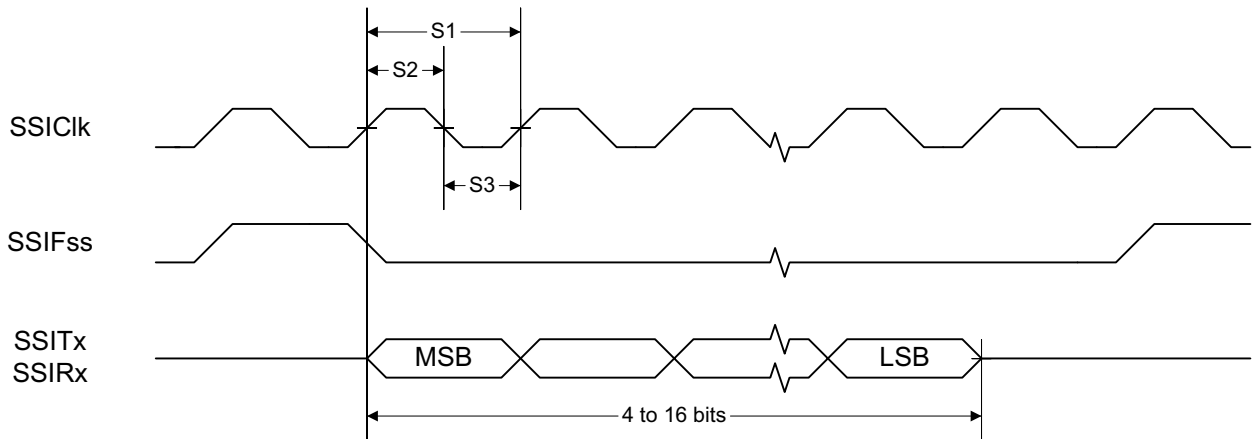
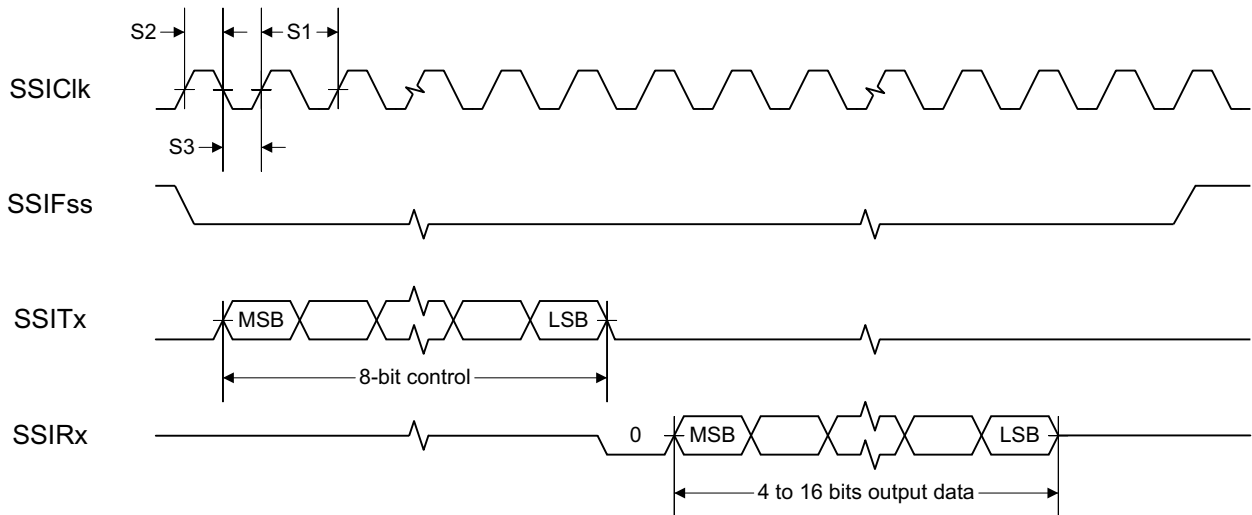
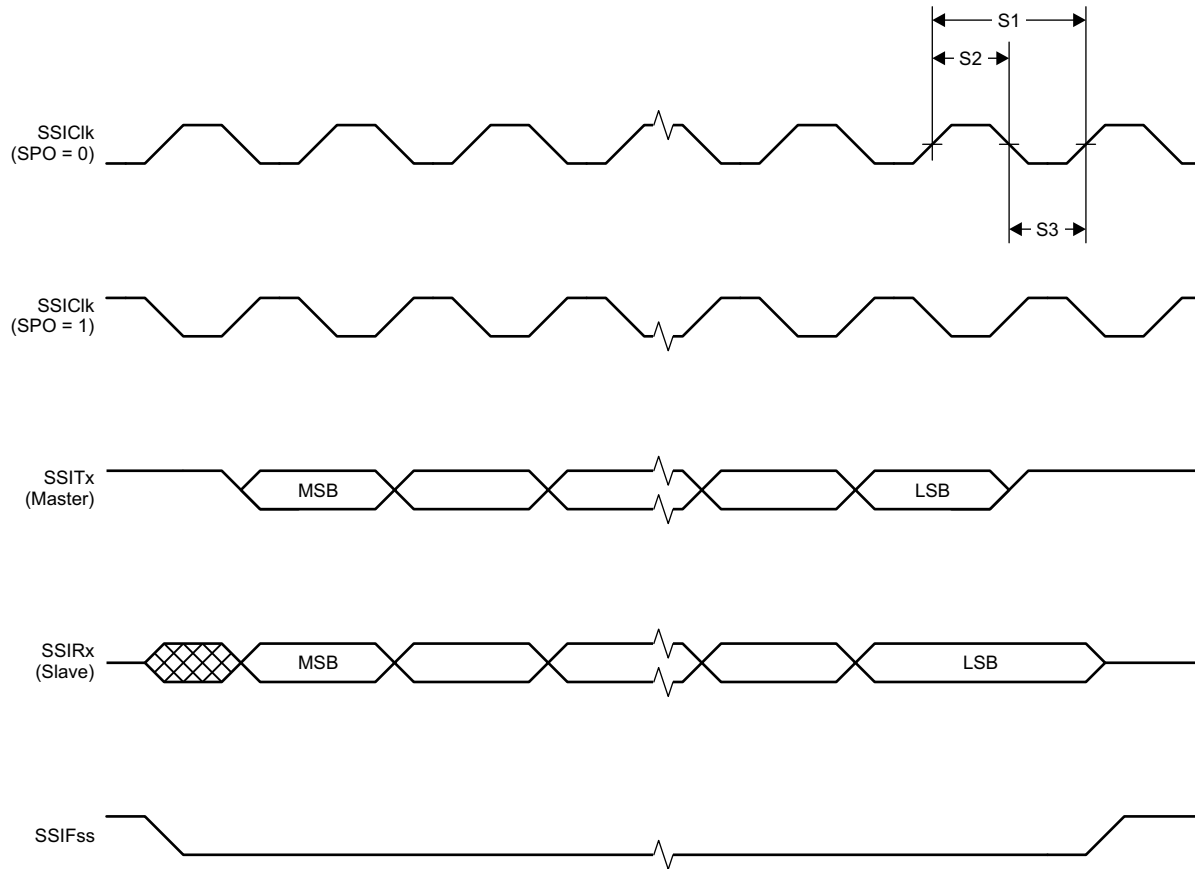

Figure 5-1. SSI Timing for TI Frame Format (FRF = 01), Single Transfer Timing Measurement
Figure 5-2. SSI Timing for MICROWIRE Frame Format (FRF = 10), Single Transfer
Figure 5-3. SSI Timing for SPI Frame Format (FRF = 00), With SPH = 1
(1) For smaller coin cell batteries, with high worst-case end-of-life equivalent source resistance, a 22-μF VDD input capacitor (see Section 7.1.1) must be used to ensure compliance with this slew rate.
(2) Applications using RCOSC_LF as sleep timer must also consider the drift in frequency caused by a change in temperature (see Section 5.14).
(3) T_A = -40°C to +85°C, V_{DD} = 1.7 V to 3.8 V, unless otherwise noted.
(4) T_c = 25°C, V_{DD} = 3.0 V, unless otherwise noted. Device operating as slave. For SSI master operation, see Section 5.24.
(5) Refer to the SSI timing diagrams Figure 5-1, Figure 5-2, and Figure 5-3.
- (1) Device operating as master. For SSI slave operation, see Section 5.23.
- (2) Refer to SSI timing diagrams Figure 5-1, Figure 5-2, and Figure 5-3.